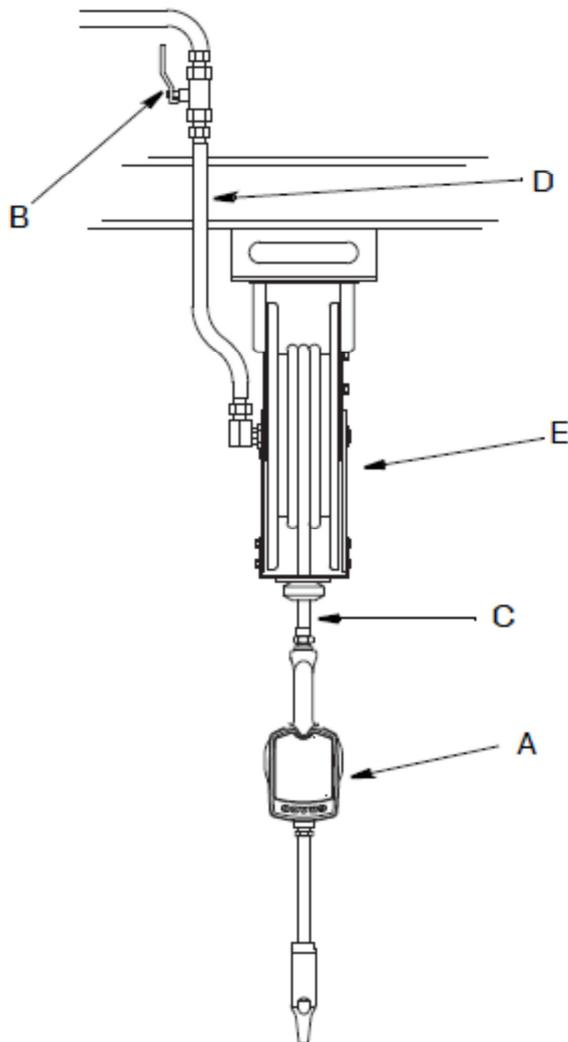

Fig. 1
Fig. 1 shows a typical hose reel installation. Dispense valves can also be installed on a console.
The typical installation shown in Fig. 1 is only a guide. It is not a complete system design. Contact your TECALEMIT-Service for assistance in designing a system to suit your needs.
3. Close the stop valve (B, Fig. 1, page 8).